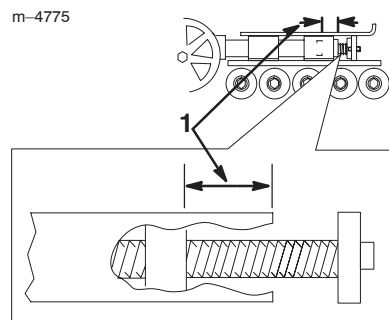

Figure 36
Check and adjust the track tension every 100 operating hours. There should be 2-3/4 inches (7 cm) between the tension nut and the back of the tension tube (Fig. 36). If not, adjust the track tension using the following procedure:
4. Using a 1/2 inch drive socket (Fig. 39), turn the tensioning screw counter-clockwise until the distance between the tension nut and the back of the tension tube (Fig. 36) is 2-3/4 inches (7 cm).
11. Turn the tensioning screw counter-clockwise until the distance between the tension nut and the back of the fork tube (Fig. 36) is 2-3/4 inches (7 cm).
17. Turn the tensioning screw counter-clockwise until the distance between the tension nut and the back of the tension tube (Fig. 36) is 2-3/4 inches (7 cm).